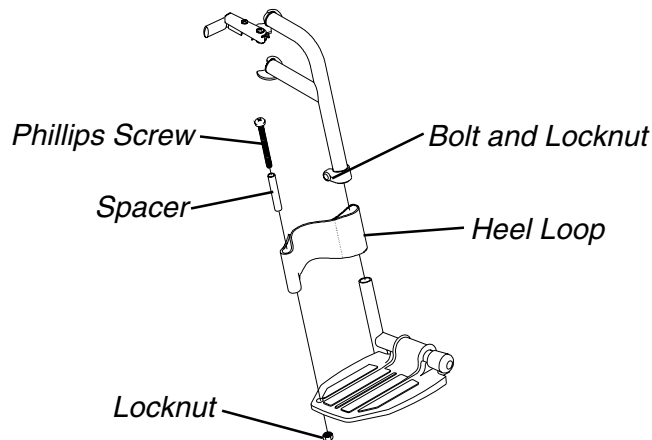

FIGURE 3 - HEEL LOOP REPLACEMENT
**HEEL LOOP REPLACEMENT (FIGURE 3)**